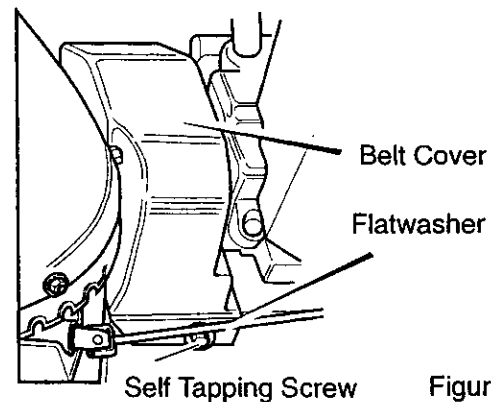

Figure 22
2. Remove the **belt cover**. See Figure 22.
- Remove the **screw** from the **belt cover**. Remove the **belt cover**. See Figure 22.
14. Install the **belt cover**. Tighten the **screw**. See Figure 22.
12. Install the belt cover. Tighten screw. See Figure 22.
2. Remove the **screw**. Remove the **belt cover**. See Figure 22.
6. Install the **belt cover**. Tighten the **screw**. See Figure 22.